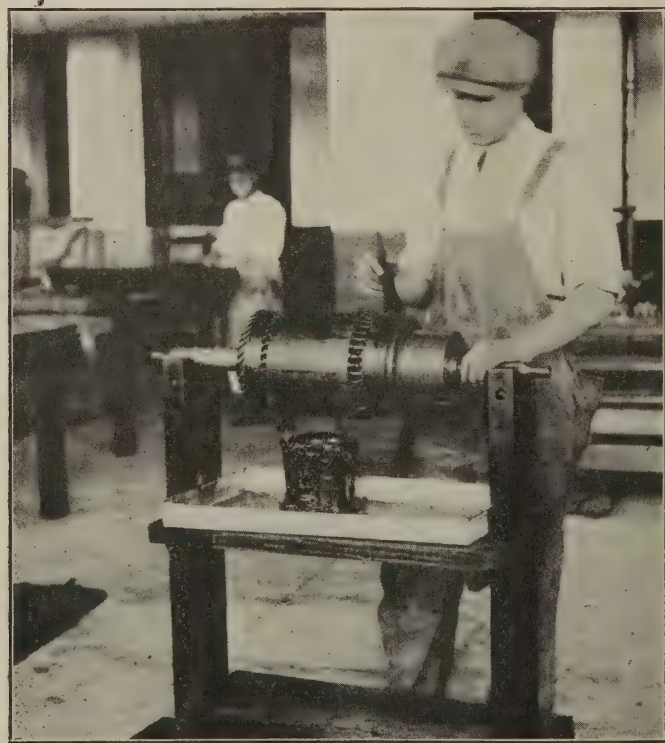

Fig. 4 Armature Stand for Cleaning, Painting, Banding and Undercutting
practically all different in detail of construction. The stand shown in Fig. 4 is a particularly good one. It is 38 in. high to the center of the armature shaft and the uprights are 28 in. apart. It is mounted on casters hav-
W. A. Hancock, electrical foreman, is responsible for the compression link on the Edison puller; the combination tool was devised by T. A. Simmons, and the gun and armature stand were built by J. G. Prestwood. T. A. Simmons is shown operating the cleaning gun. The man painting the armature, Fig. 4, is J. T. Landsberg, a co-operative student of the Georgia School of Technology. The co-operative course is so arranged that the student has class room work for one month and work in some shop for one month, this alternation of activities continuing throughout the entire five years of the course.